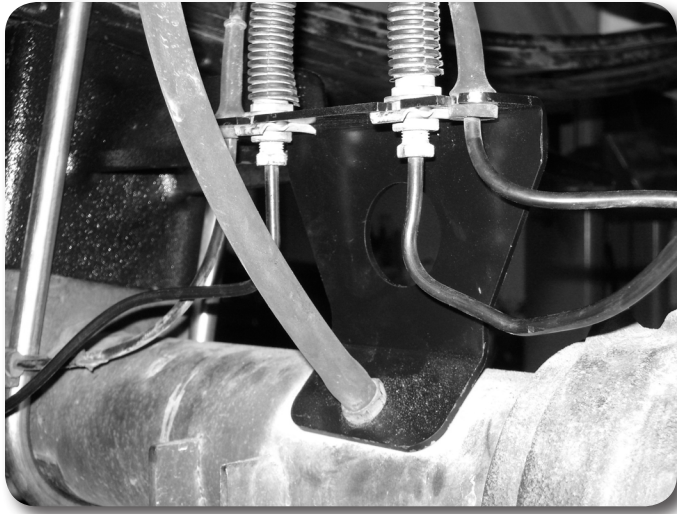

Figure 27
18. Install the rear brake line relocation bracket to the factory axle with the factory breather tube stud. Attach the breather tube and attach the brake lines to the relocation bracket using the OE brake clips. Figure 27